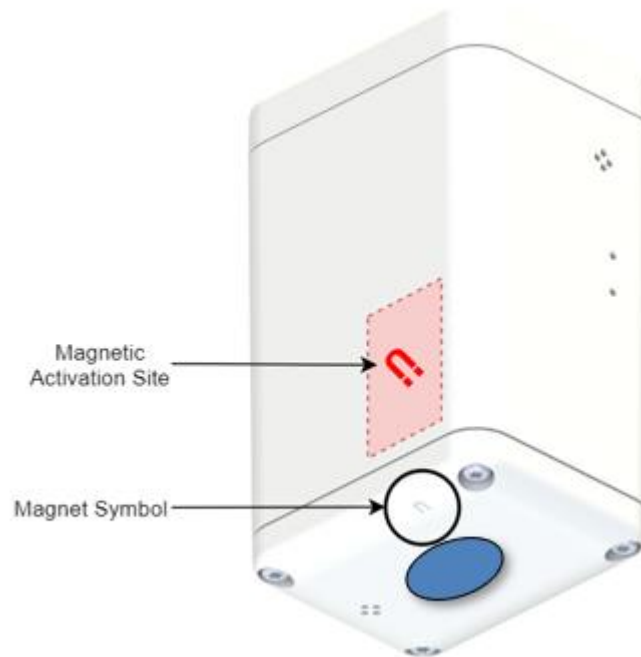
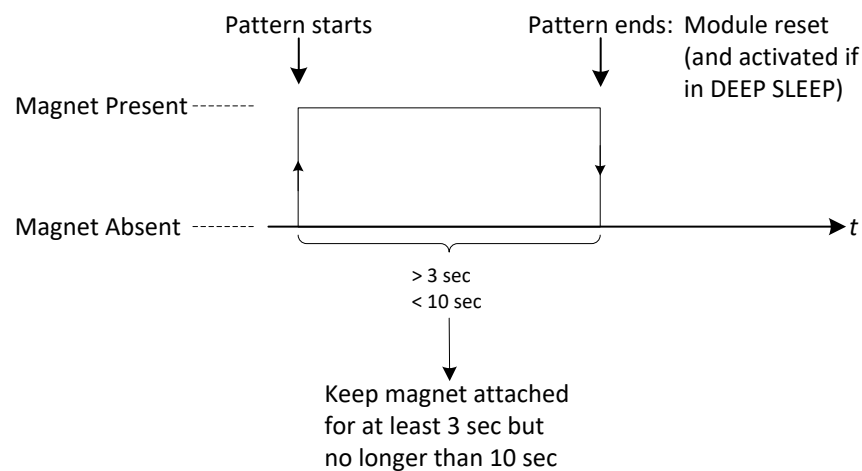
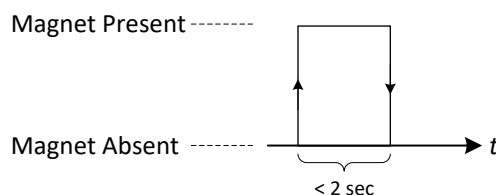

Figure 2-1: Enclosure View Showing Magnetic Activation Site and Symbol
Figure 2-2: The Magnetic Activation/Reset Pattern.
Figure 2-3: The Magnetic Forced UL Pattern
The ROBIN is equipped with an internal hall-effect sensor, which detects the presence and absence of a magnet. A magnet will be detected if it is sufficiently strong and brought into contact with the enclosure at the *magnetic activation site*, which is located on the enclosure body right above the magnet symbol on the endcap, as shown in Figure 2-1.
The magnetic activation/reset pattern is illustrated in Figure 2-2. A “magnet presence” is achieved by placing a magnet against the enclosure at the magnetic activation site as shown in Figure 2-1. A “magnet absence” is achieved by taking the magnet away from the enclosure. Figure 2-2 shows that the pattern involves sustaining a “magnet presence” continuously for at least 3 sec but less than 10 sec.
1. **Magnetic Activation/Reset Pattern:** The same pattern to wake the sensor from DEEP SLEEP (Figure 2-2) can be used to put the sensor back into DEEP SLEEP, if applied while the sensor is in JOIN mode. I.e.: If the sensor detects the magnetic pattern before it has received the JOIN ACCEPT DL, then it will re-enter DEEP SLEEP mode.
The magnetic pattern for forced ULs involves briefly tapping the magnet against the magnetic activation site then removing it in less than 2 seconds, as illustrated in Figure 2-3. The magnetic activation site is shown in Figure 2-1.